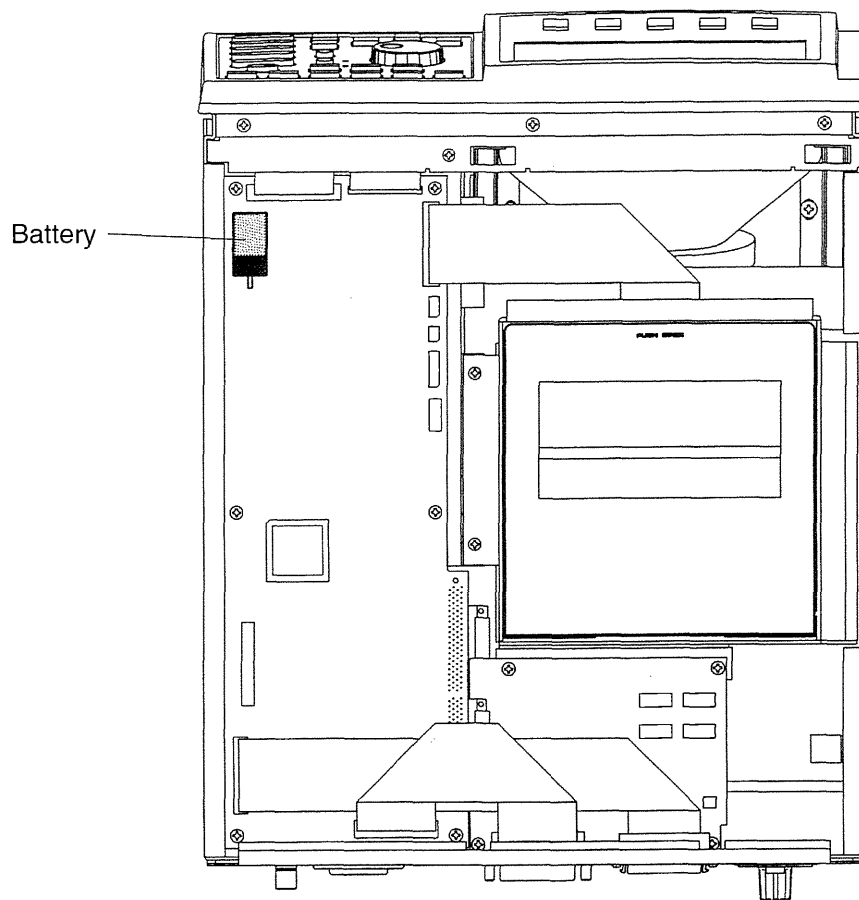

Figure4 Top view (after removing the top cover)
4. The battery is mounted with solder in the position as shown in the figure 4. Remove it, after cutting the both connections with nippers etc.